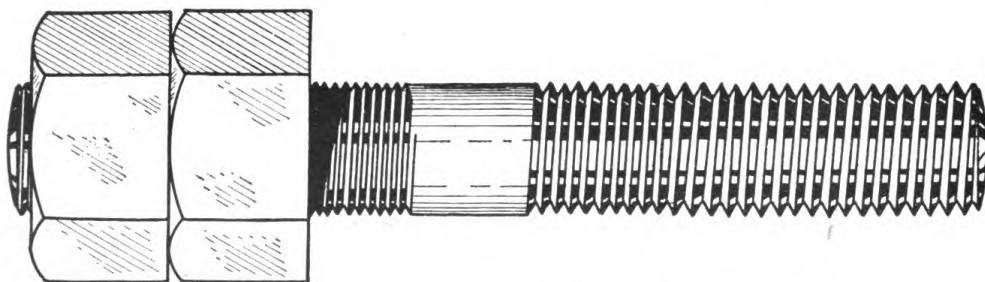

Figure 24. Two nuts on a stud—emergency method of tightening or loosening a stud.
(3) In an emergency, studs may be installed or removed by threading two nuts on the fine threads of the stud and binding one against the other. The stud can then be removed or installed by using these nuts as though they were the head of a bolt. The nuts may be removed from the stud by holding one and loosening the other. Two wrenches would, of course, be necessary. (See fig. 24.)
e. GEAR AND BEARING PULLERS. (1) Gear and bearing pullers are made in a variety of shapes and sizes. One usually consists of a collar which has a threaded hole in the center, two or three L-shaped bars pinned to the outside of it, and a bolt which fits the threaded hole of the